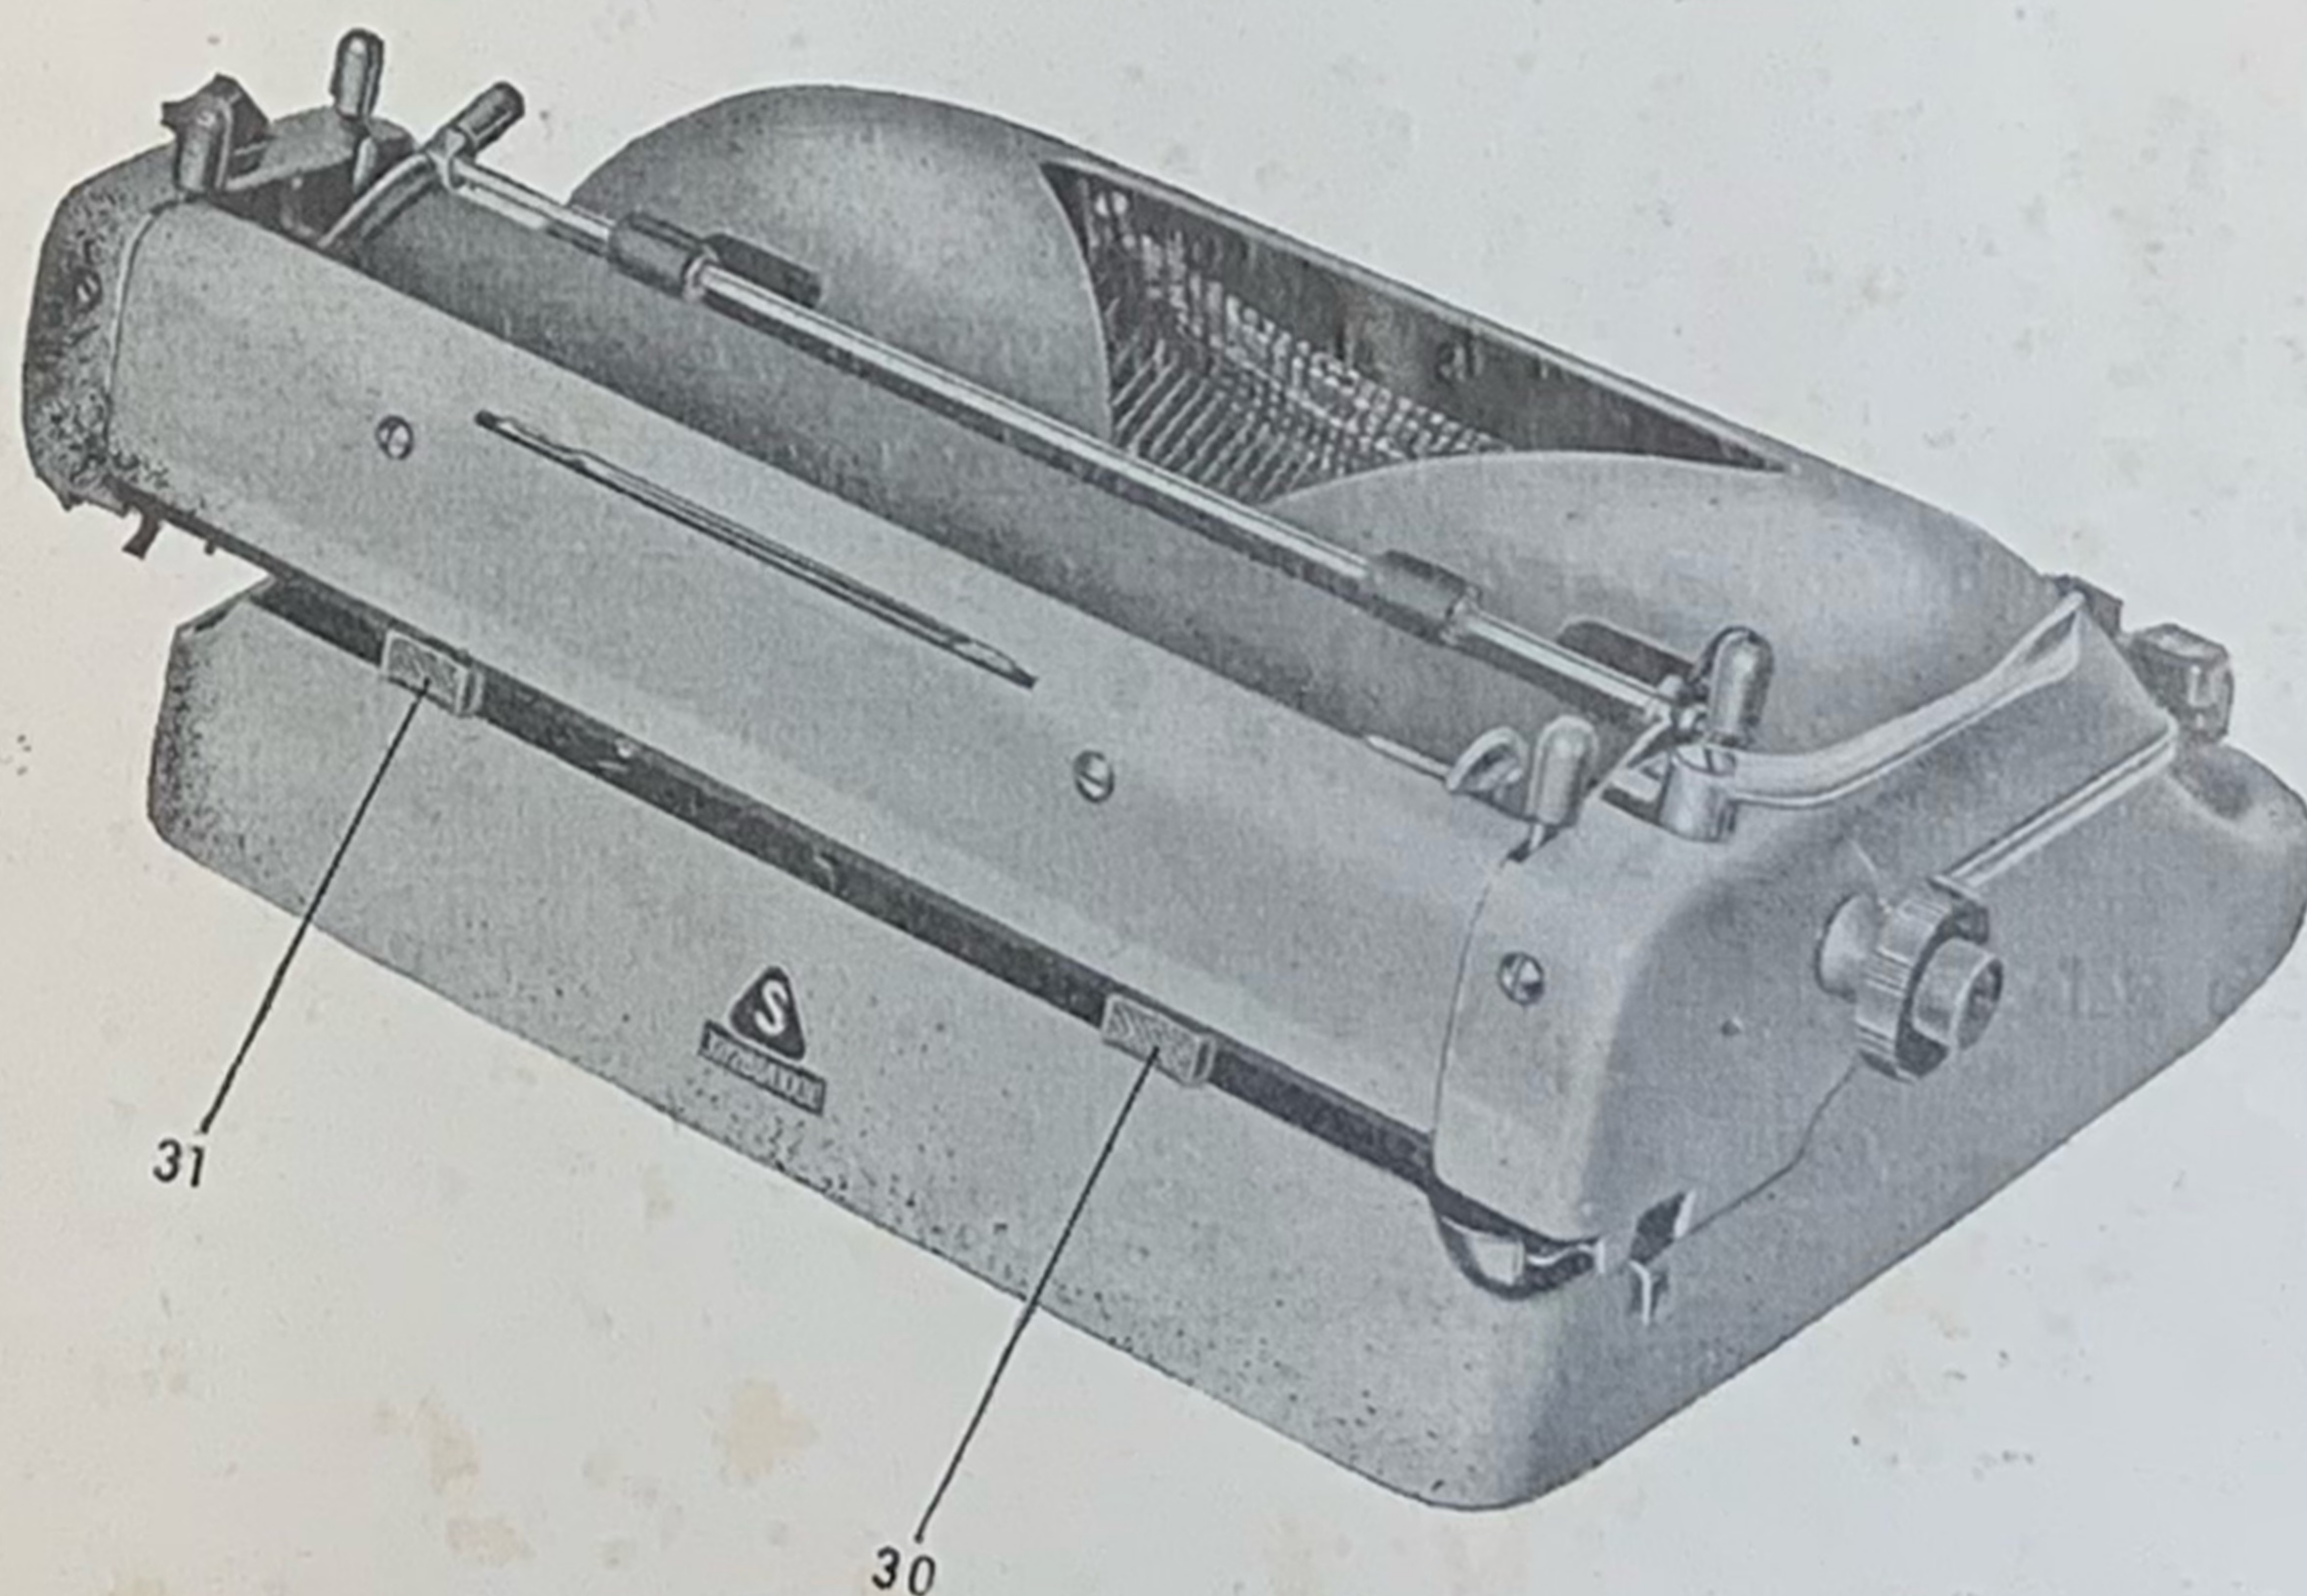

fig. 4
Margin stops 30 and 31 (fig. 4) are arranged on the rear side of the typewriter. They can be moved to the two sides to limit the travel of the carriage, fixing the margin of the text. In order to mark the beginning or the end of a line, the carriage should be moved into the corresponding position and the pertinent margin stop shifted laterally as far as it will go, pressing its button; thus the left margin stop 30 will indicate the beginning and the right margin stop 31 the end of a line. If the carriage is to travel beyond the left margin stop, it is only necessary to depress margin release key 26 and to move the carriage into the desired position. The margin adjustment on the right will also operate a bell signal, which will sound 8 letters ahead